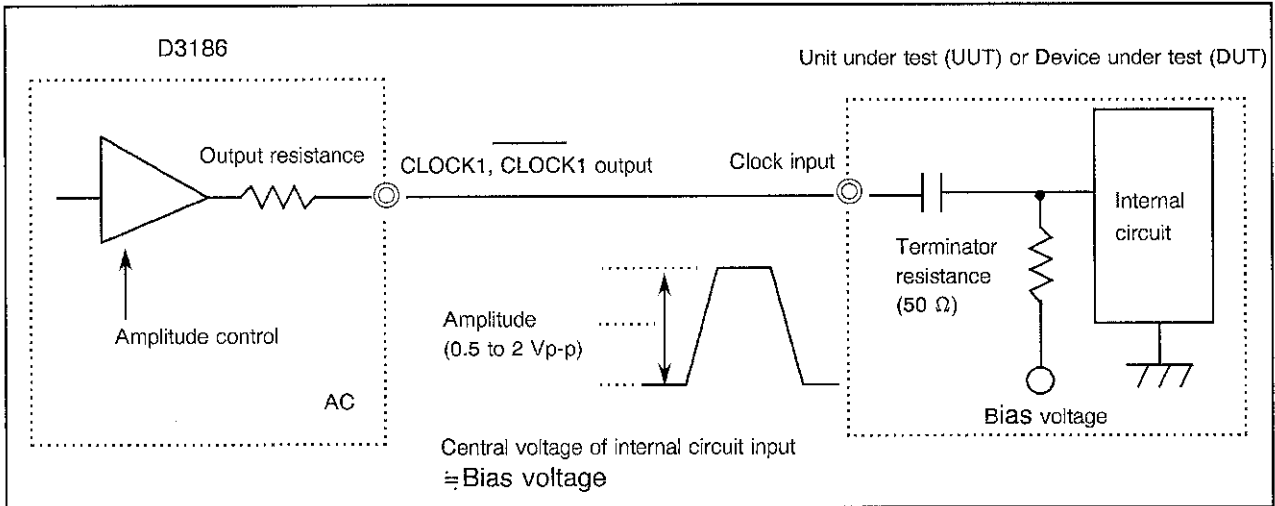

Figure 4-6 CLOCK1 and CLOCK1, AC Connection
- (2) When the UUT/DUT clock input connection is AC:
- (a) To use variable UUT/DUT clock input amplitude (See Figure 4-6.):